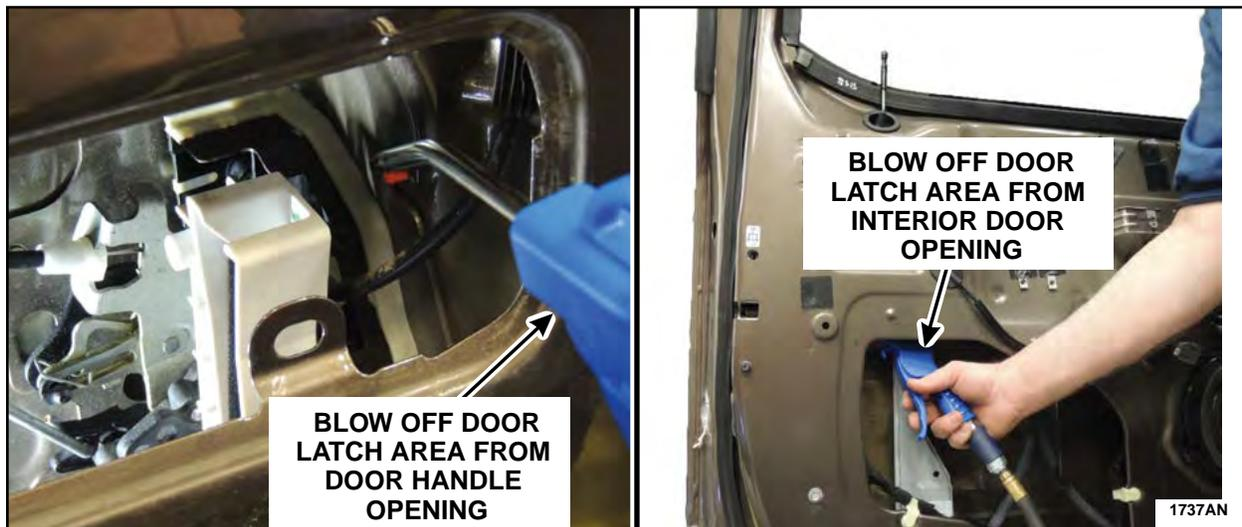

FIGURE 55
4. Using compressed air, blow out any debris or residual water from the door latch assembly, exterior door handle mechanism and cables for thirty seconds. Blow drying with compressed air for thirty seconds is critical to remove as much moisture as possible. See Figure 55.